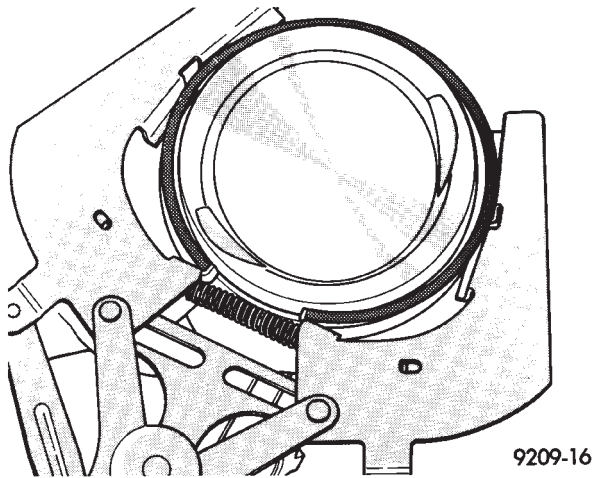

Fig. 8 Piston Rings—Removing and Installing
- (1) ID mark on face of upper and intermediate piston rings must point toward piston crown.
- (2) Using a suitable ring expander, remove upper and intermediate piston rings (Fig. 8).
- (3) Remove the upper oil ring side rail, lower oil ring side rail and then oil ring expander from piston.
- (4) Clean ring grooves of any carbon deposits.